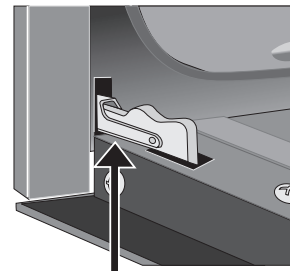
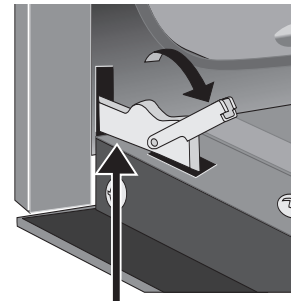

Figure 42: Door hinge locks
Figure 43: Unlocking door hinge
2. Pull up the lock located on each hinge support toward front of the oven until the lock stops. You may have to apply a little upward pressure on the lock to pull it up (Figure 42 and Figure 43).
2. Hold the oven door at the same angle as the removal position. Carefully insert the hinge levers into the oven frame until you feel the hinge levers are seated into the hinge notches. The hinge arms must be fully seated into the hinge notches before the oven door can be fully opened. (Figure 43).